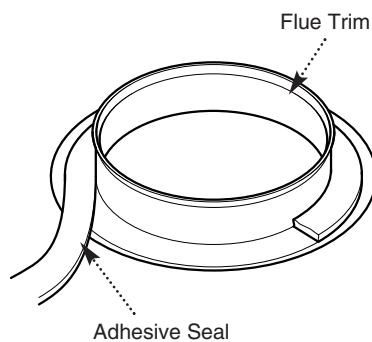

Fig. 13
2. Remove the protective backing from the adhesive seal. Apply the seal to the rear of the trim flange (Fig. 13).